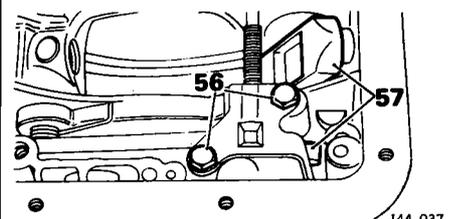

Fig. 36
56. Remove the bolts securing the plate retaining parking brake pawl and rear servo operating lever pivot pin; remove the plate (Fig. 36).
57. Withdraw the pivot pin and rear servo operating lever (Fig. 36).